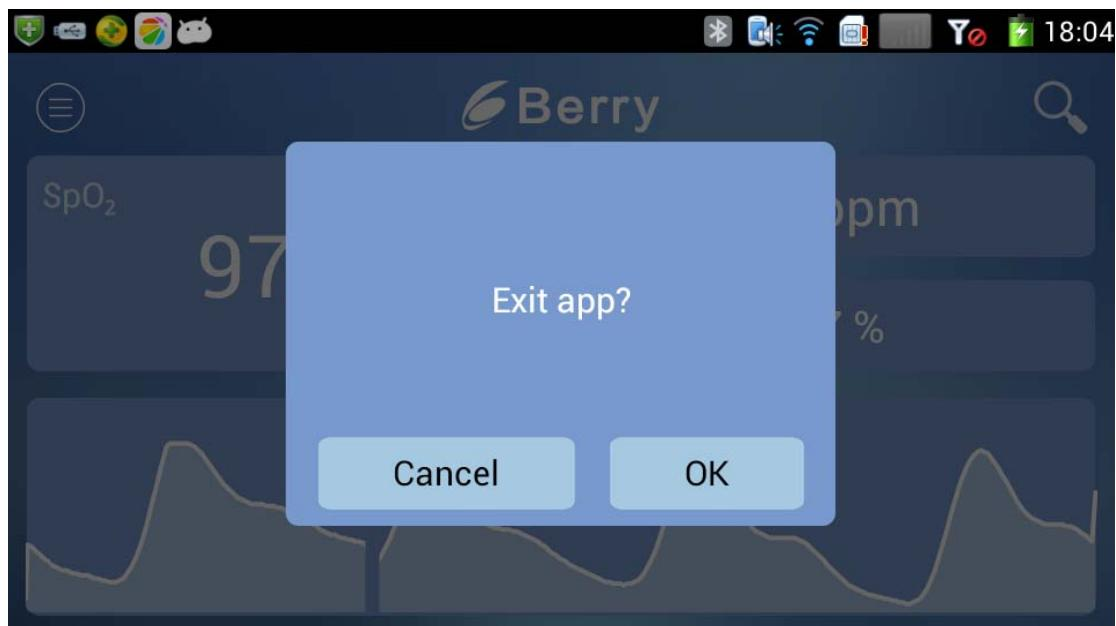

Figure 17
i. If you want to exit the software, click escape key of your mobile phone and jump the following window. And then click “OK”, exit the software. (as shown in **Figure 17**)